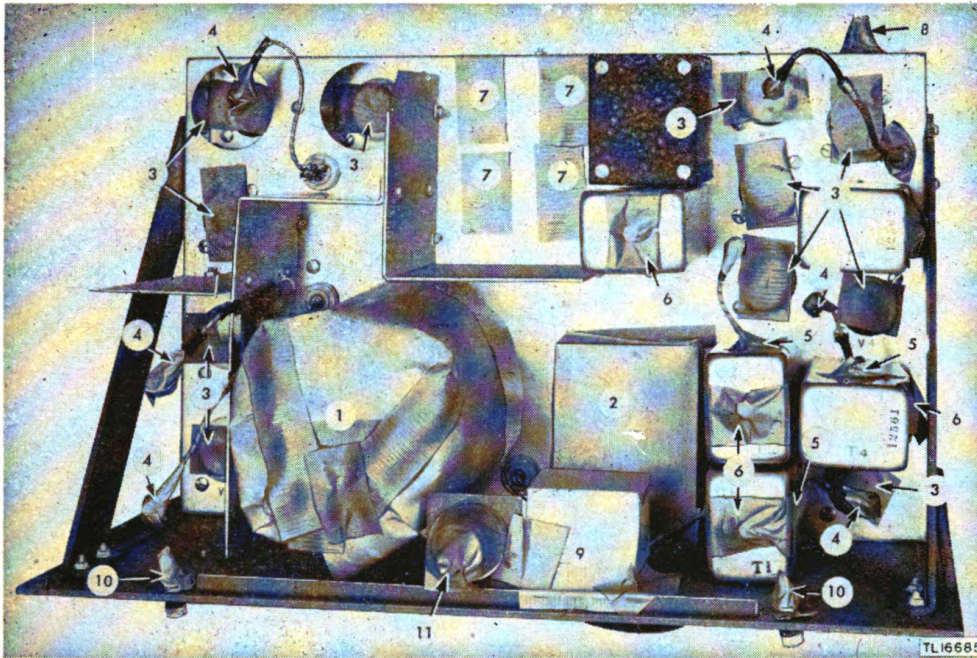

Figure 10. Radio Receiver and Transmitter BC-441-(), masked r-f chassis—top view.*
d. MASKING TOP OF RECEIVER AND TRANSMITTER CHASSIS (FIG. 10).
Note: The following subparagraph numbers correspond to the part numbers on figure 10.